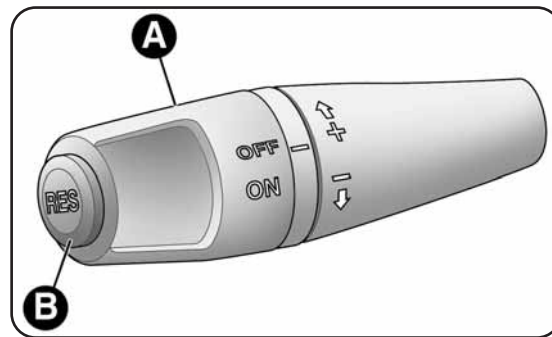

fig. 36
Turn selector wheel A-fig. 36 to ON. The device cannot be engaged when the vehicle is in 1st gear or reverse: It is advisable to engage the device at 5th gear or higher.
- turn selector wheel A-fig. 36 to ON and press the accelerator until the vehicle reaches the desired speed;
- press button B-fig. 36 (RES).
- turn selector wheel A-fig. 36 to OFF;